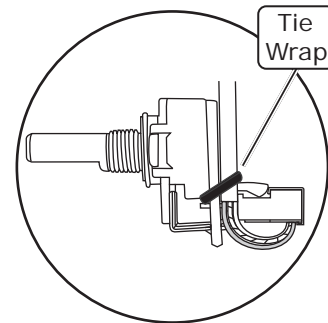

Figure 1a
2. Plug the harness leads onto each of the rotary potentiometers, then tie wrap the wire for support (See Figure 1a, below).
5. Tie wrap wires to the rotary pots as shown in Figure 1a, below.